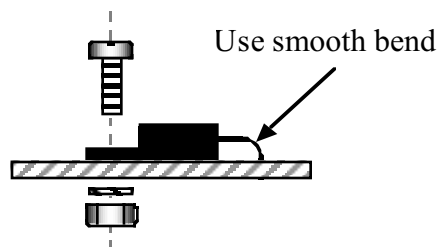

Figure 4
- Locate voltage regulator U8 (78M05 or 7805). Bend the leads of U8 to match its component outline (see Figure 4). Form the leads around the shaft of a small screwdriver to create smooth rather than sharp bends.